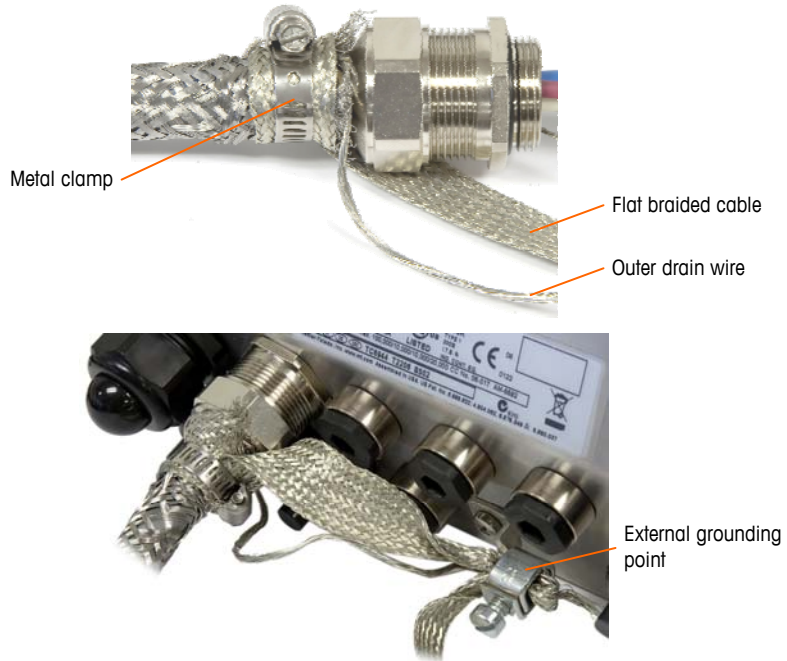

Figure A-49: PDX Home Run Outer Braid Termination, Harsh Enclosure
- c. Pull the outer braid forward to cover the brass sleeve and wrap one end of a flat braided ground cable over it before securing everything down using the metal clamp (Figure A-49). Route the home run cable's outer drain wire along with the flat braided cable through a ground lug attached to the rear of the harsh enclosure. The other end of the flat braided cable is terminated at the ground rod.